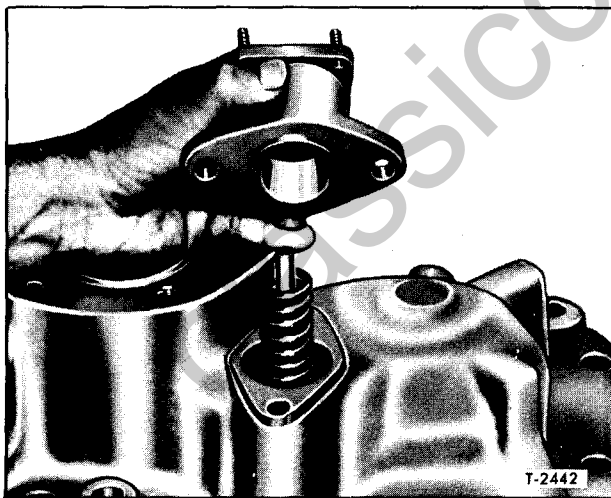

Figure 17—Inter-Axle Air Shift Chamber and Spring (Eaton)
4. Remove two cap screws and lock washers attaching cylinder to differential carrier cover. Remove cylinder and piston assembly (fig. 17). Remove spring from fork shaft.
1. Position new gasket on differential carrier cover, also install spring over shift fork shaft (fig. 17).